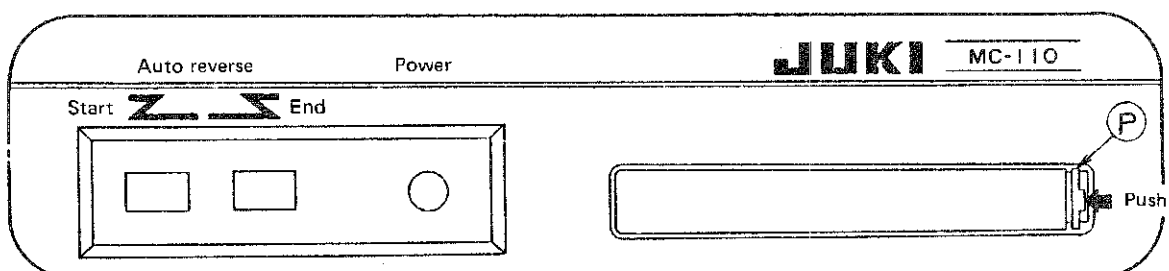

Fig. 3
- ① Turn the power switch OFF.
- ② Push "P" in the direction of the arrow to remove the CPU control panel cover. (See Fig. 3)